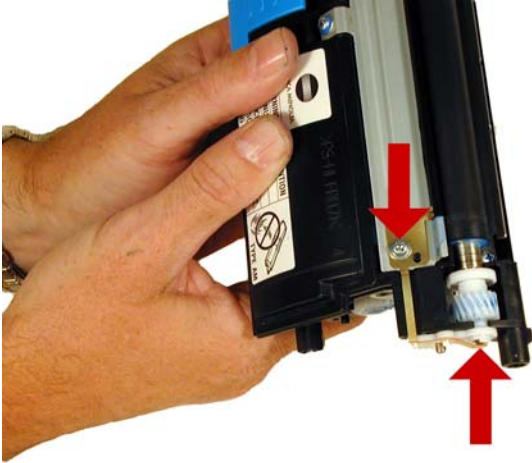

Figure 27
22) Install the contact/bushing assy. and screw See **Figure 27**